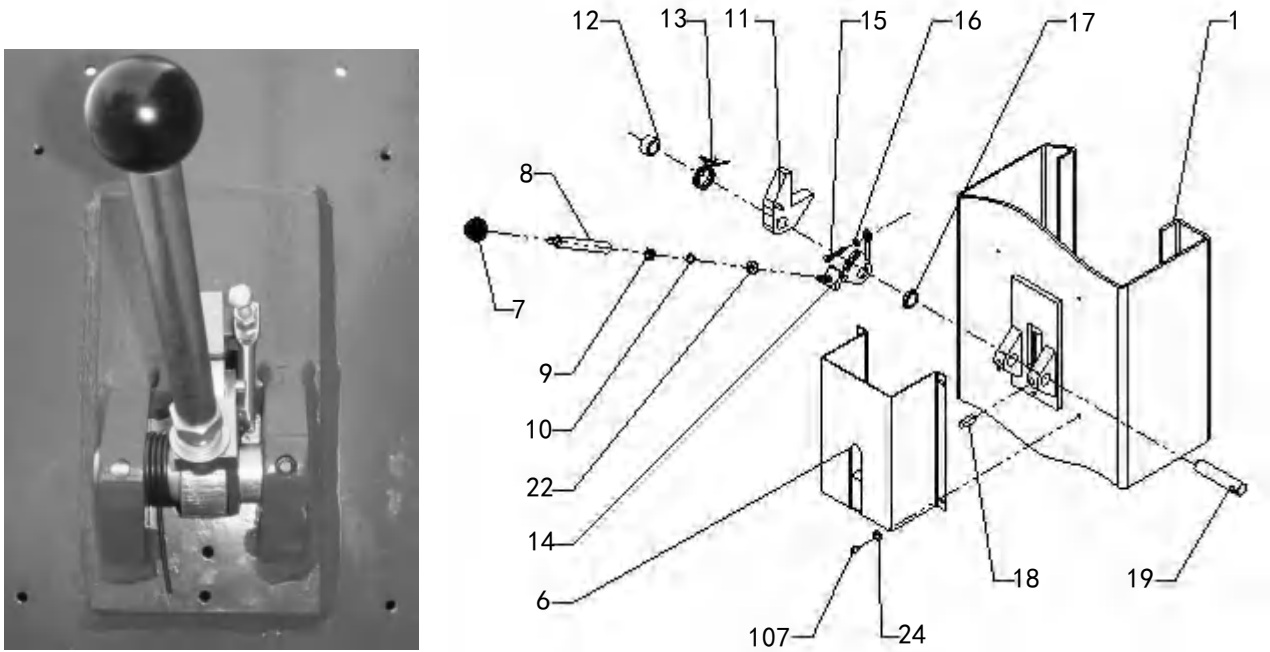

Fig. 27 Power-side safety device
J. Install safety device (See Fig. 27 & 28).